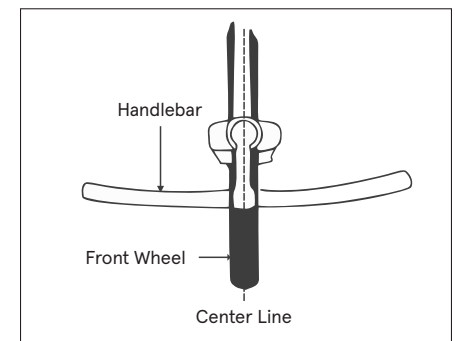

Fig. 11
2. Align the handlebar stem with the front wheel (See Fig. 11). Securely tighten the stem bolt(s). Note: Some models require a 6mm hex key. (Tightening torque: 18N.m or 14foot lbs.torque).